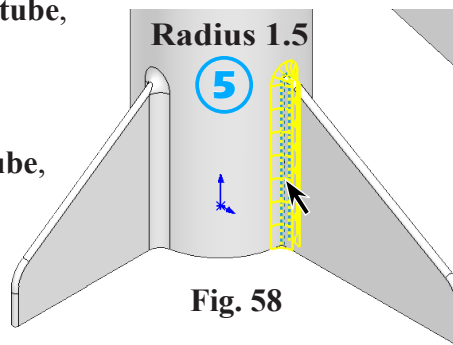

Fig. 58
⑤ Click edge of H Stab at tube, Fig. 58